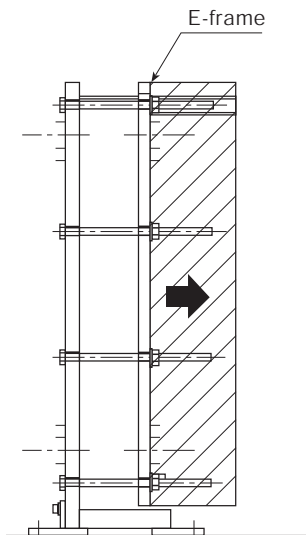

Fig.3.4 NJ Series
Don't install a fixed pipeline within the oblique-lined area (▨) in Figs.3.4 and 3.5. The E-frame must be moved back. Therefore, existence of fixed piping within this moving area disabled to move the E-frame backward for overhaul and inspection.
(13) Use the oblique-lined zone  in Figs.3.4 and 3.5 as a work passage. But be careful of possible collision against the tightening bolts.
Connect two or more end pipes to each nozzle. Don't install a fixed piping within the E-frame shift area. (Refer to Fig.3.4, 3.5)
Don't install a fixed piping within the E-frame shift area. (Refer to Fig.3.4, 3.5)